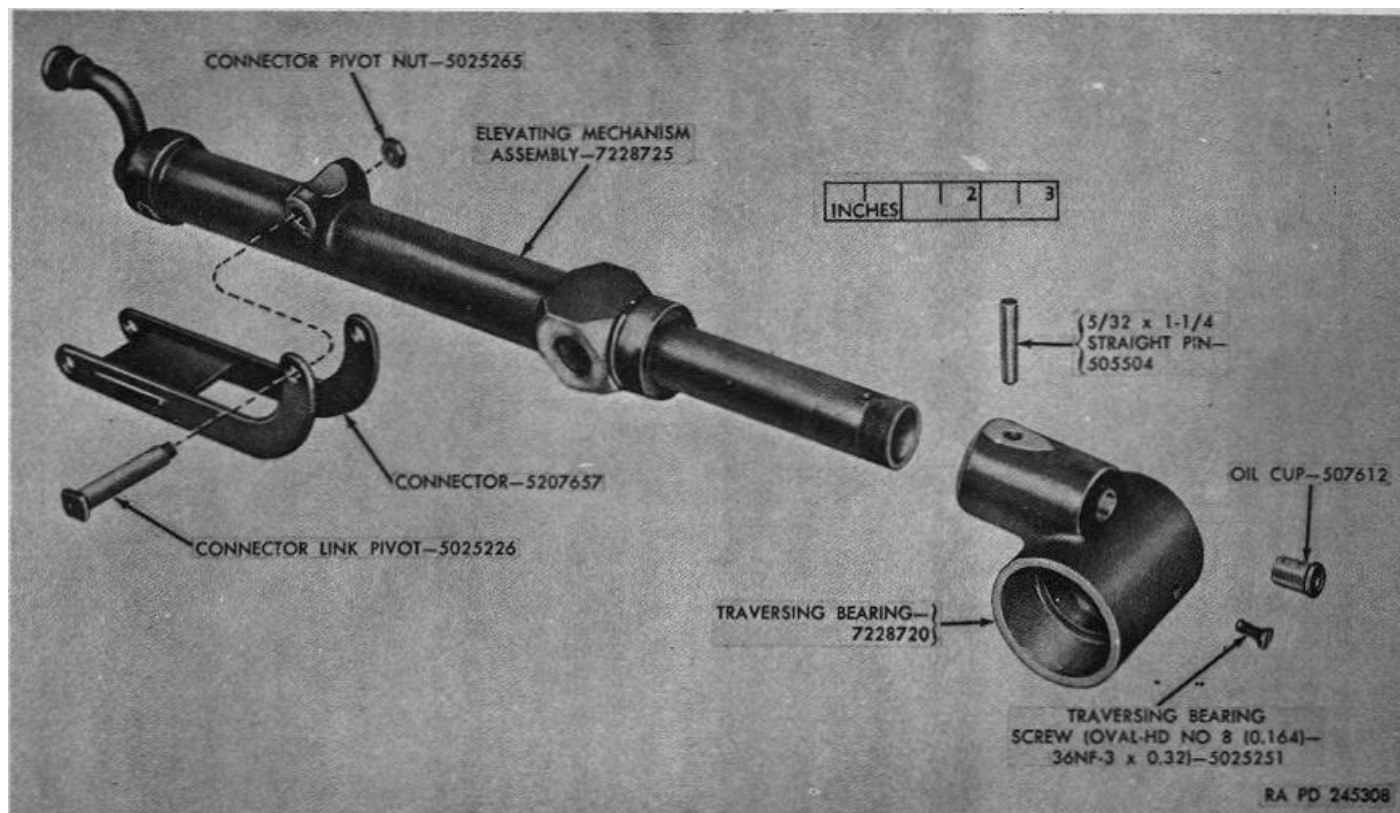

Figure 23. Elevating mechanism group--exploded view.
- a. Drive out the straight pin from traversing bearing and unscrew from elevating mechanism assembly (fig. 23).
- b. Remove peen from threaded end of connector link pivot, unscrew connector pivot nut, and remove connector link pivot and connector (fig. 23).
f. Screw traversing bearing onto elevating mechanism assembly (fig. 23) until holes align and drive in 5/32 x 1 1/4 straight pin.
g. Secure connector to elevating mechanism assembly by means of connector pivot and connector pivot nut (fig. 23). Peen threaded end of connector pivot over the pivot nut. Connector should pivot freely.